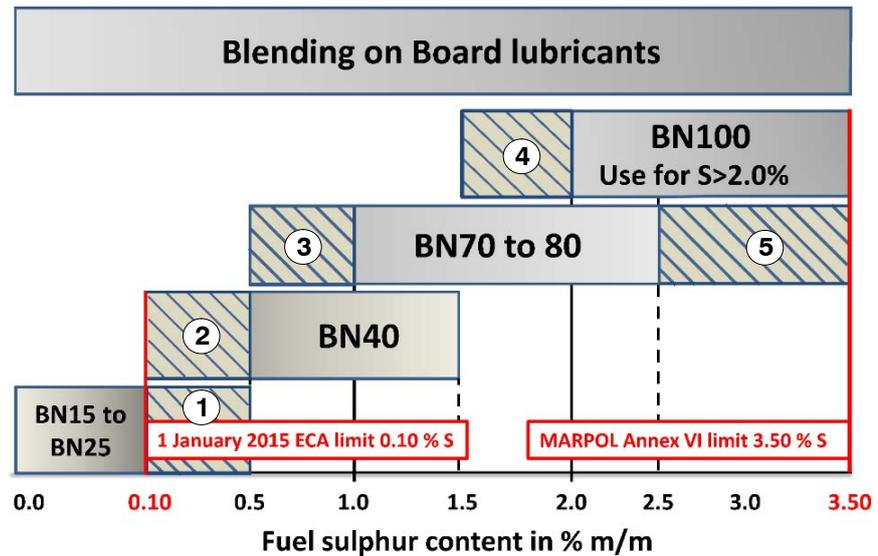

Fig. 1: Relation between Fuel Sulphur Content and Cylinder Lubricating Oil BN
Fig. 1 shows recommendations of applicable cylinder lubricating oils related to the sulphur content of the used fuel.
If you do not use an on-board monitoring programme to monitor the piston underside drain oil, use the data given in Fig. 1 to choose an applicable cylinder lubricating oil. For data about the applicable feed rates, see 7218-1 Cylinder Lubrication and 7218-3 Feed Rate – Adjustment.
- Range 1 (see Fig. 1): When the fuel sulphur content is more than 0.1% m/m and less than 0.5% m/m during operation with BN 15 to BN 25 cylinder lubricating oil, you must do an analysis of the piston underside drain oil from the on-board monitoring system. You must obey the data that follows:
- Range 2 (see Fig. 1): When the fuel sulphur content is more than 0.1% m/m and less than 0.5% m/m during operation with BN 40 cylinder lubricating oil, adjust the cylinder lubricating oil feed rate to the guide feed rate (see 7218-1 Cylinder Lubrication). This prevents too much piston crown and top land deposits.
- Range 3 (see Fig. 1): When the fuel sulphur content is more than 0.5% m/m and less than 1.0% m/m during operation with BN 70 to BN 80 cylinder lubricating oil, adjust the cylinder lubricating oil feed rate to the guide feed rate (see 7218-1 Cylinder Lubrication). This prevents too much piston crown and top land deposits.
- Range 4 (see Fig. 1): When the fuel sulphur content is more than 1.5% m/m and less than 2.0% m/m during operation with BN 100 cylinder lubricating oil, adjust the cylinder lubricating oil feed rate to the guide feed rate (see 7218-1 Cylinder Lubrication). This prevents excessive piston crown and top land deposits.
- Range 5 (see Fig. 1): When the fuel sulphur content is more than 2.5% m/m and less than 3.5% m/m during operation with BN 70 to BN 80 cylinder lubricating oil, operation is permitted only, when you do an analysis of the piston underside drain oil from the on-board monitoring system. You must obey the data that follows: